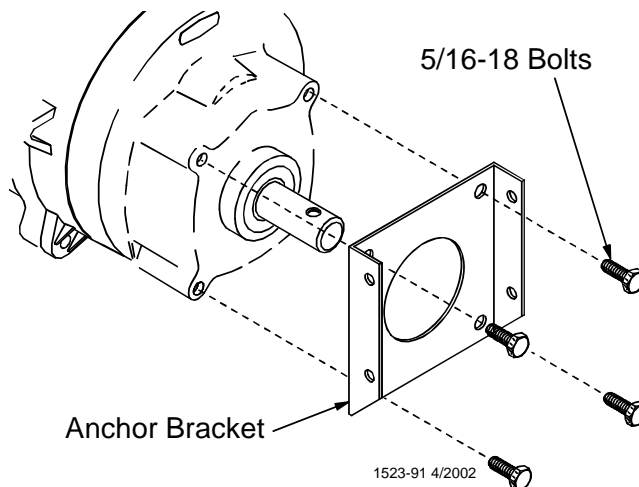

Figure 36.Installing anchor plate
6. Install the Anchor Bracket to the Power Unit/Gearhead, as shown in **Figure 36**, with the included 5/16-18 Bolts.